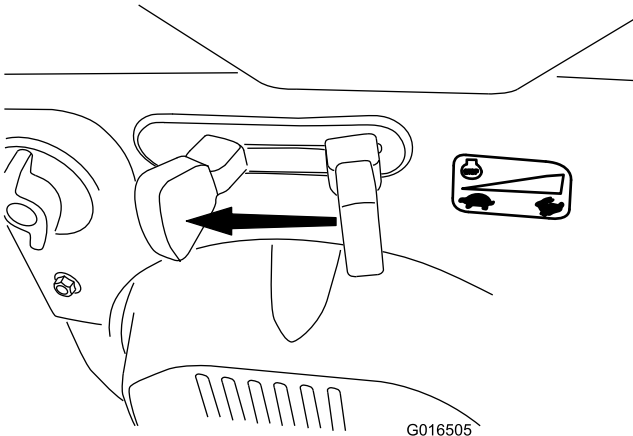

Figure 27
1. Move the throttle to the SLOW position, and then to the STOP position (Figure 27) to kill the engine. The